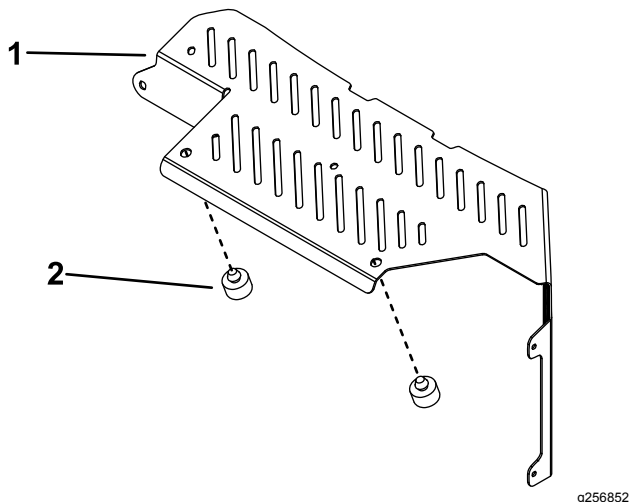

Figure 5
2. Install the 2 bumpers on the heat shield (Figure 5).